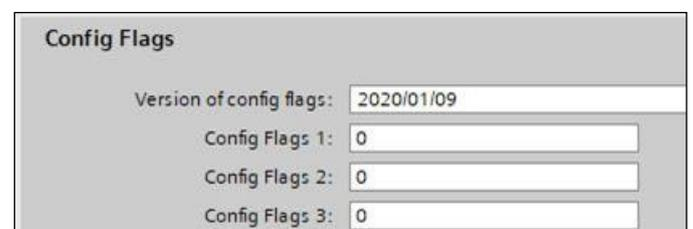

Fig. 119: Config Flags – linear profile
- **Ignoring offsets configured in the project:** You can use the “Config Flags 1” entry to set whether the sensor should accept or ignore the offsets transmitted by the controller when establishing the connection. You can adjust this in the module parameters of the sensor in the “Config Flags” section (Fig. 119). You can set the following values for bit 1 of the “Config Flags 1” entry: